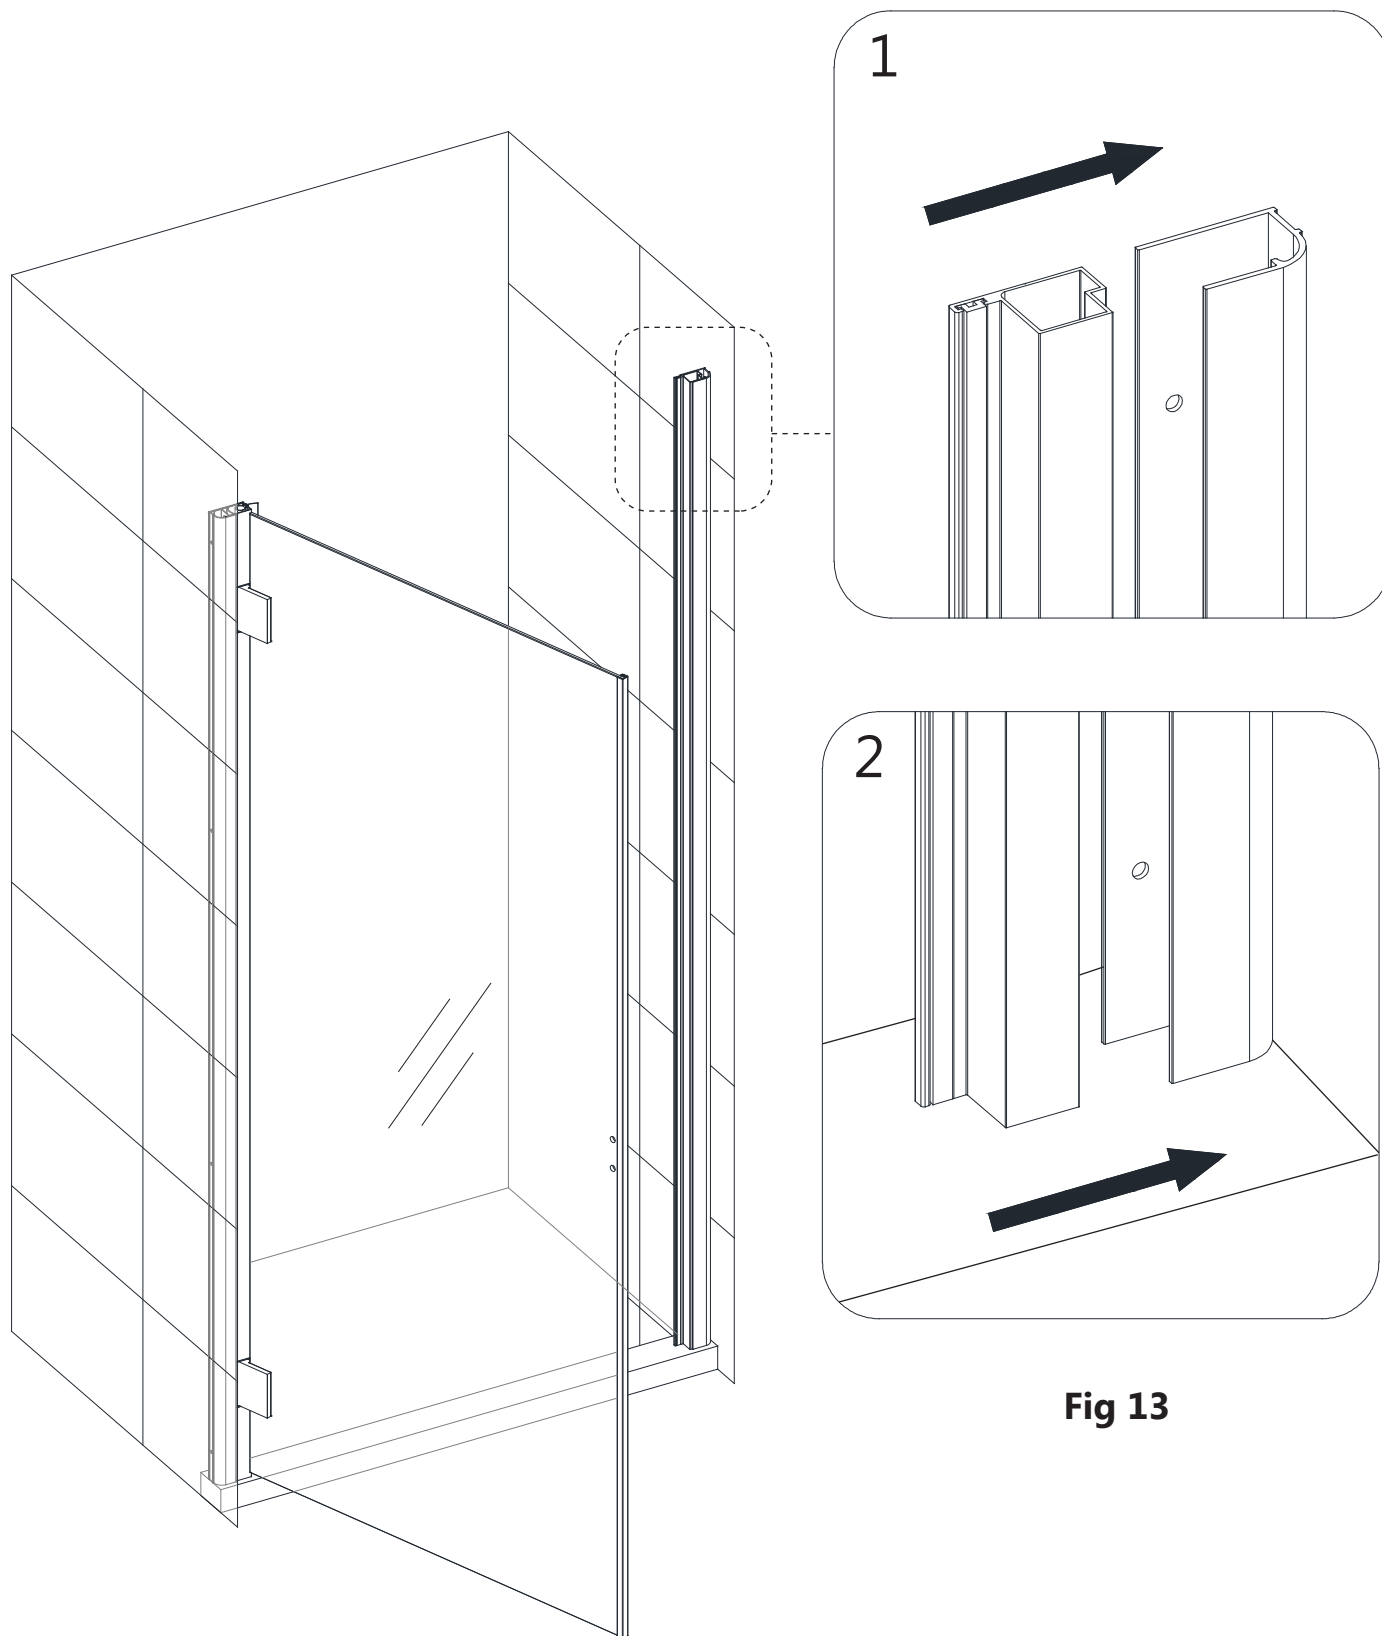

Fig 13
10. Insert the **Strike Profile (#09)** back into the installed **Wall Profile (#10)**, and adjust the **Strike Profile (#09)** as necessary to line up the magnetic seals. **(Fig 13)**